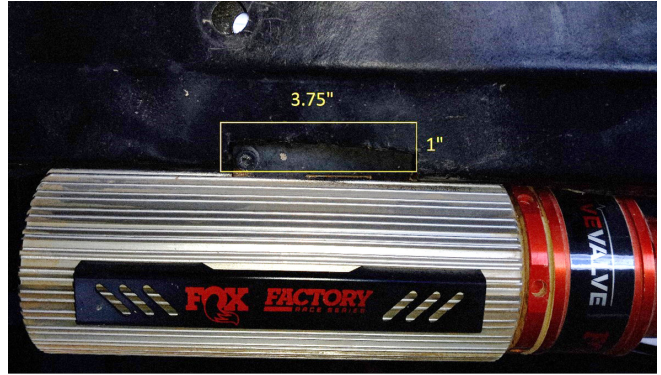

Fig. 26: Section to cut on each respective side of the truck from the fender liner.
2. Note the reservoir position in relation to the bed frame stiffening channels, as shown (Fig. 21 and Fig. 22). If a plastic fender liner covers the bed frame channel, a 1.0 x 3.75 in. section of the fender liner must be trimmed to allow clearance for the reservoir bracket. However, a 2024 MY F-150 will not have material in this area, so trimming is not needed (Fig. 26).